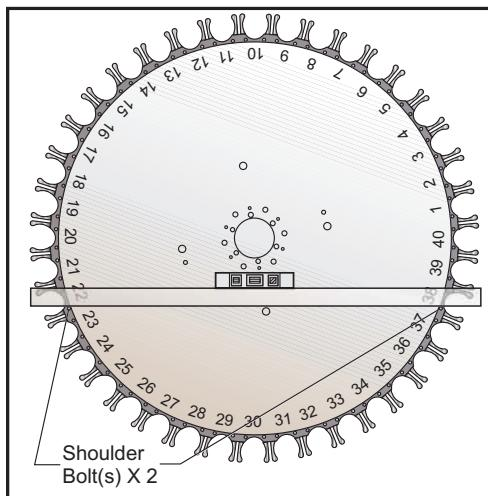

Figure 3.8-6.
14. Install two $\frac{1}{4}$ -20 x 2 in. shoulder bolts into threaded holes on the face of the carousel as shown in Figure 3.8-6. Place a 48" bubble level or a flat bar with a torpedo level across the two shoulder bolts.